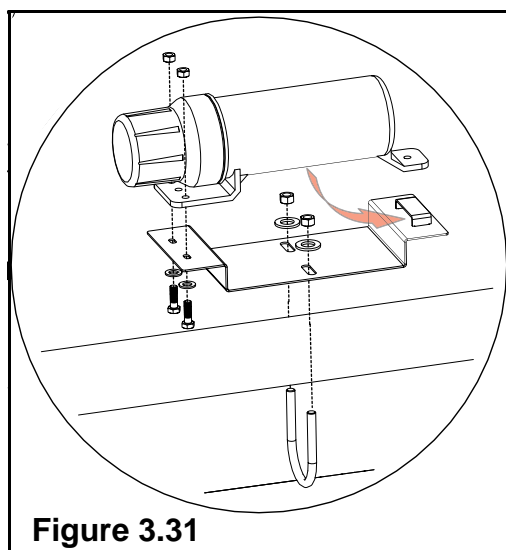

Figure 3.31
1. Attach the manual container bracket to the top of the axle, centered between the two wheels, using a 3/8" x 2-1/2" U-bolt, two 3/8" washers, and two 3/8" locknuts. (See Figure 3.31)